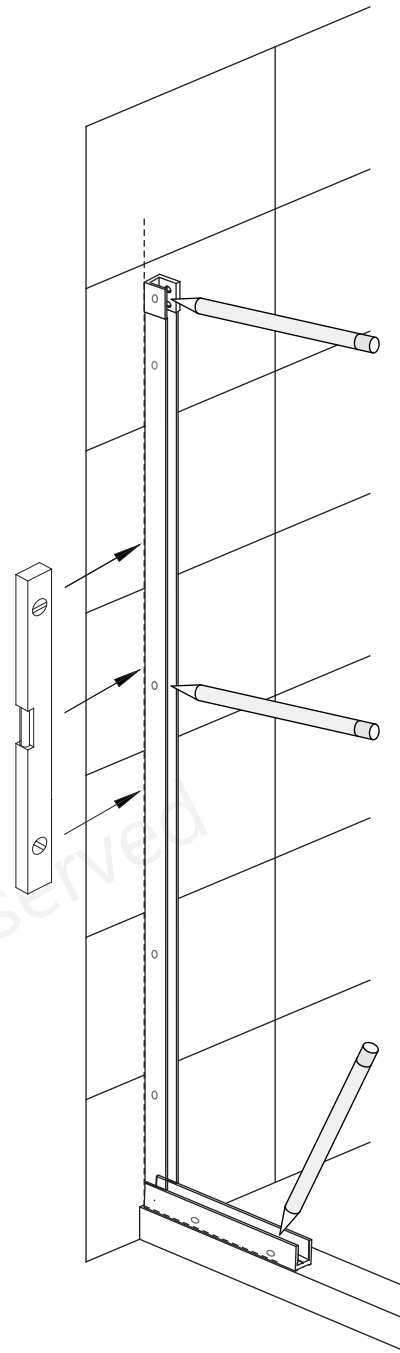

Fig 4
4. Mark the hole positions on the wall and threshold through the holes in the U-channels and the **Hinge Panel Glass Bracket (#36)**. (Note that the **Hinge Panel Glass Bracket (#36)** is wider than the u-channel and must be aligned correctly with the u-channel). **(Fig 4)**